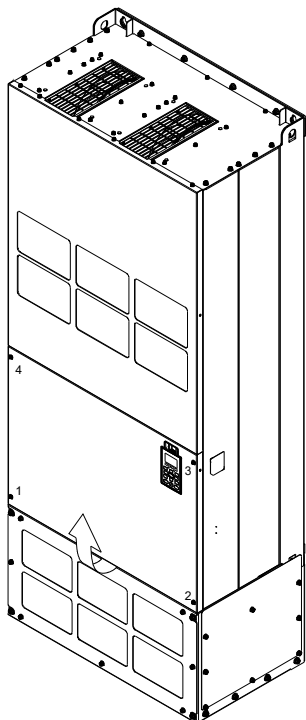

Figure 1
1. Loosen the screw 1–4 and remove the top cover (figure 1)